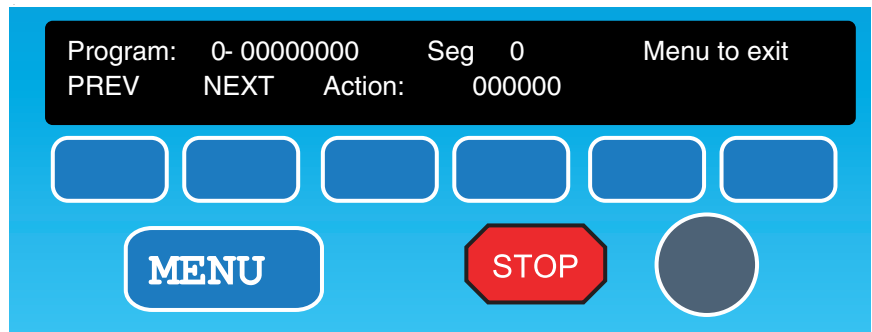

Figure 7-23: The segment programming screen.
- 7) Press the **SEGS** softkey. The display will advance to the action segment programming screen (Figure 7-23).